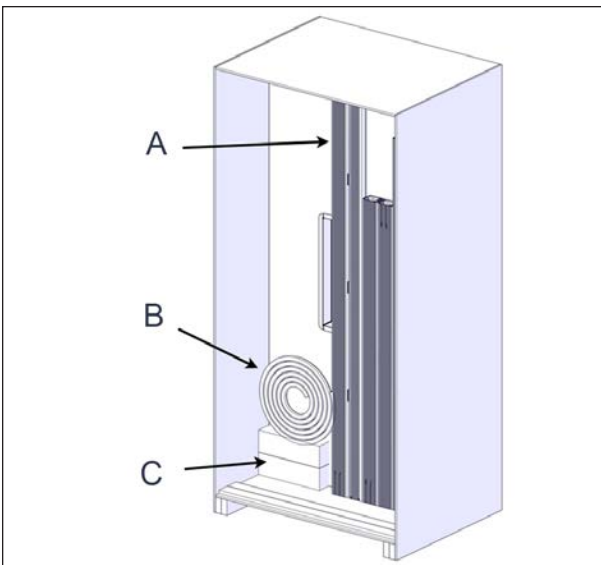

FIGURE 25: OTHER PART REMOVAL
14. Remove the seal and the foam spacers from the crate and keep them in a safe location, see Figure 25.
15. Remove the C-channels and the I-beams from the crate and keep them in a safe location, see Figure 25.